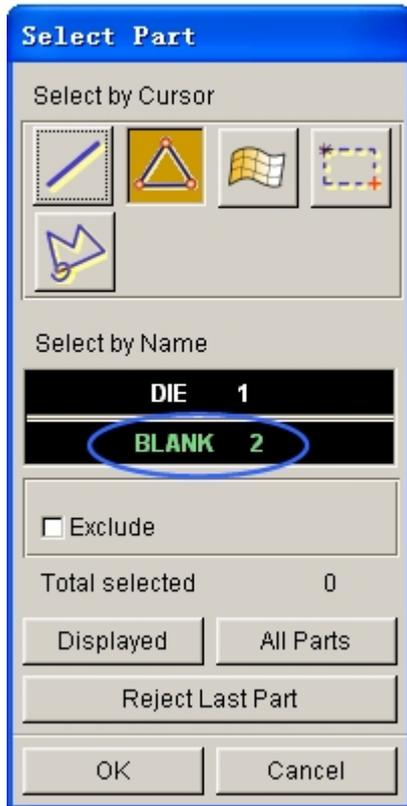
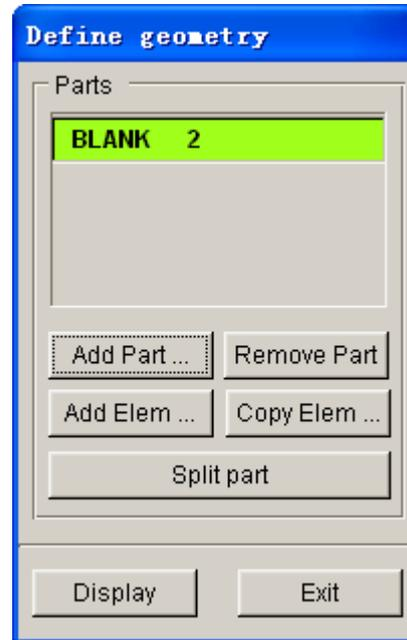

Figure 5.27 Select Part dialog box
Figure 5.28 Blank geometry list
4. Click **Add Part...** to select the **blank** illustrated in Figure 5.27, Figure 5.28.